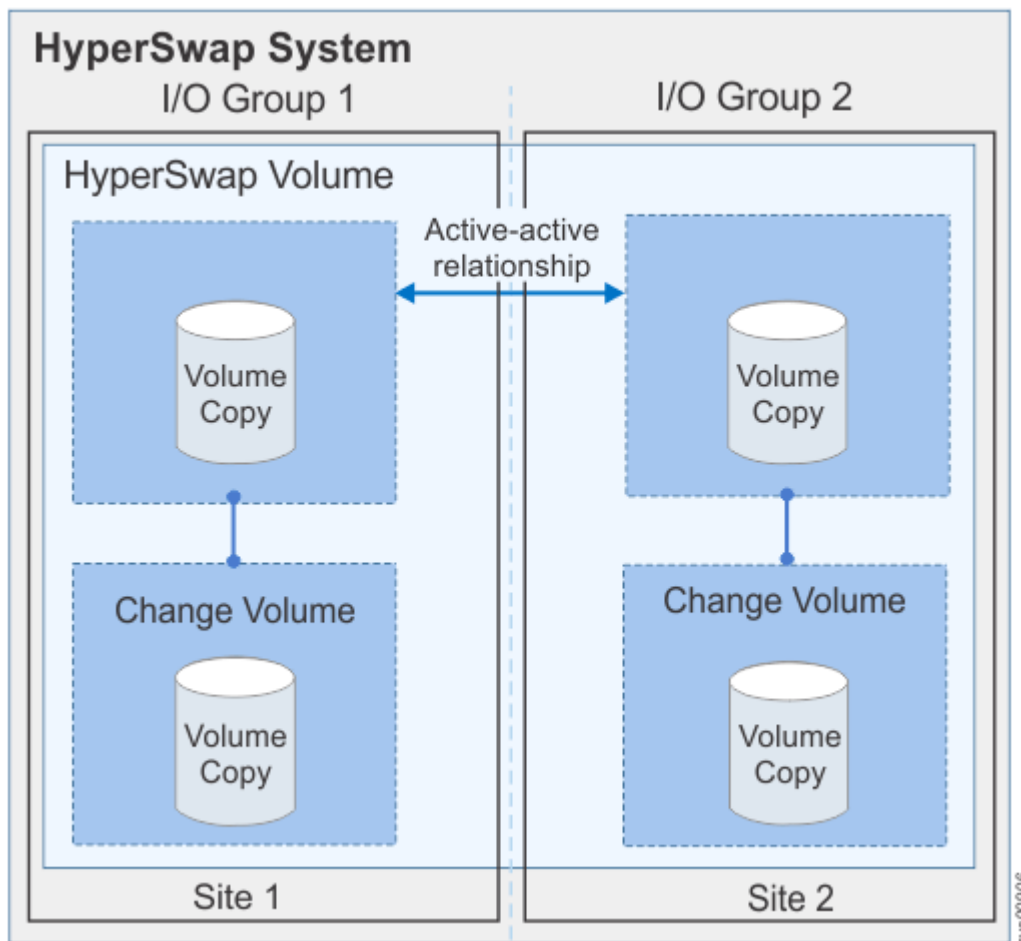

Figure 7. Example of HyperSwap volumes
- *HyperSwap volumes*, where copies of a single volume are in different storage pools that are on different sites. As Figure 7 on page 6 shows, the volume is cached in two I/O groups that are on different sites. These volumes can be created only on Storwize V5030E systems when the system topology is HyperSwap.